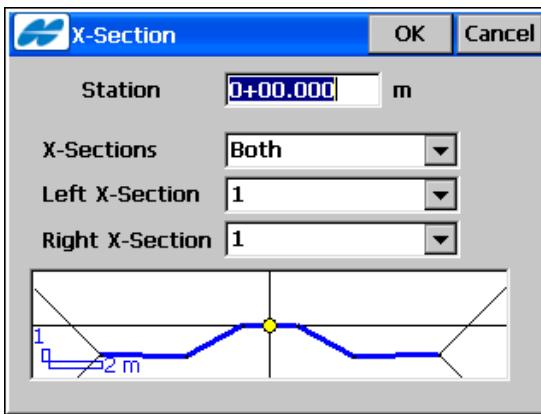

Figure 7-28. Cross Section Parameters
- **Edit** – opens the **X-Section** screen (Figure 7-28 on page 7-29) to edit the selected cross section.
The **X-Section** screen (Figure 7-28) contains parameters of the road cross-section at a given distance and a plot of the cross-section.